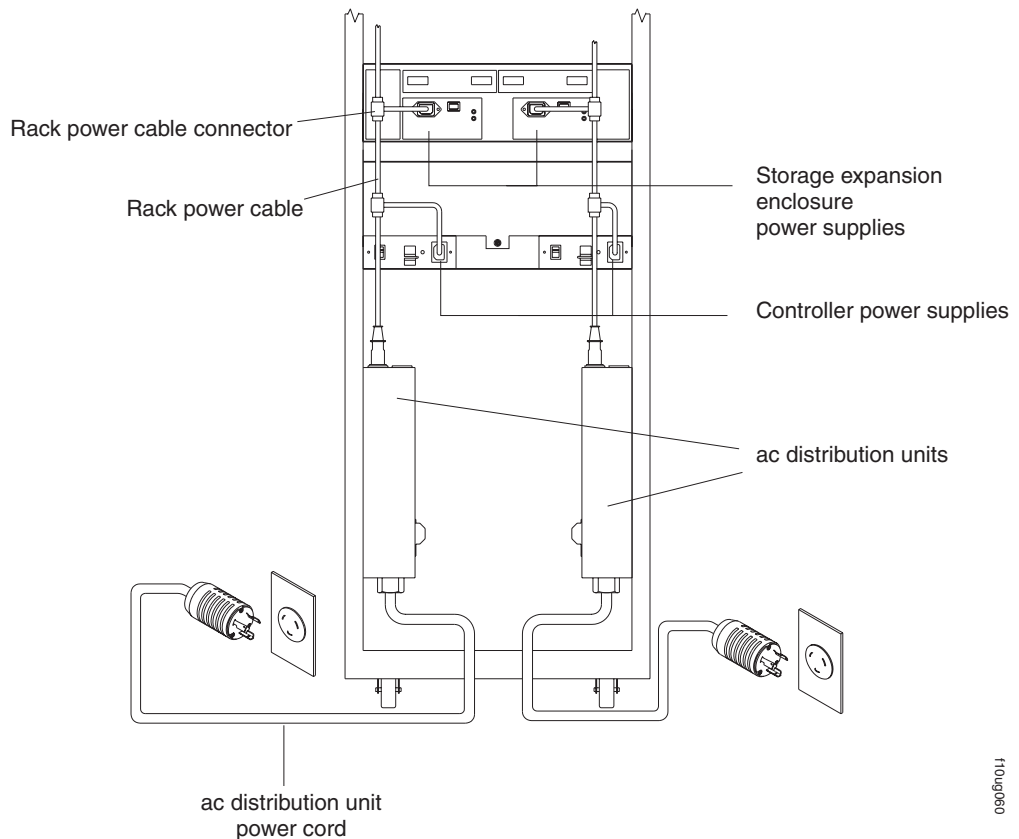

Figure 72. Redundant ac power connections to controllers and storage expansion enclosures
See Figure 72 for an example of redundant power cabling.
- To maintain power redundancy, plug the storage subsystem's right and left RAID controller units into two independent external power circuits through ac distribution units inside a rack cabinet or directly into external receptacles. Similarly, the right and left power supplies of the DS4000 storage expansion enclosures attached to the DS4800 should be plugged into the same two independent external power circuits as the DS4800. This ensures that the DS4800 and all its attached storage expansion enclosures will have power if only one power circuit is available. In addition, having all the right or all the left power cables plug into the same power circuit will enable the components in the storage subsystem to power on simultaneously during an unattended restoration of power. See Figure 72 on page 102 for an example of redundant power connections.